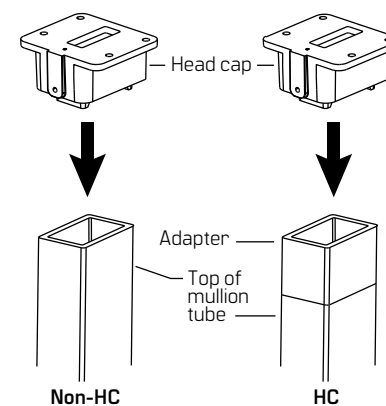

Figure 13 Placing head cap onto top of mullion (non-KR units only)
- Insert head cap into the top of tube. See **Figure 13**.